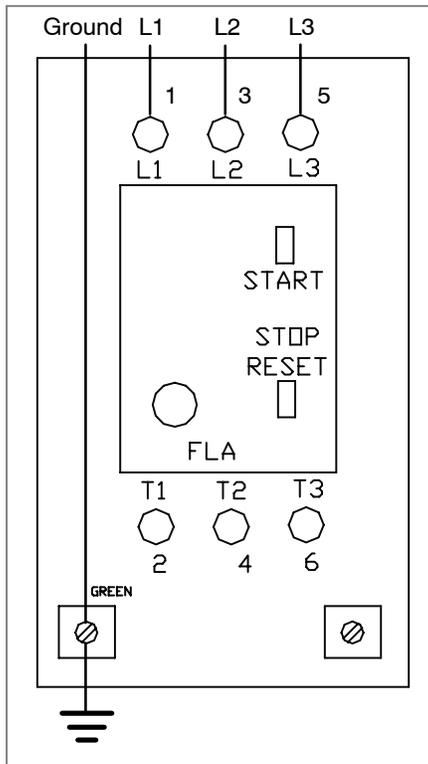

Figure 19
2. Insert line cord through grip (AJ) and tighten nut.
- For correct three-phase motor shaft rotation, connect line phase sequence L1, L2 & L3 to terminals as shown (Figure 19).
NOTE: The motor ground wire is also attached to left terminal marked \perp (Figure 19).
- Attach ground wire to lower left terminal marked \perp (see Figure 19).